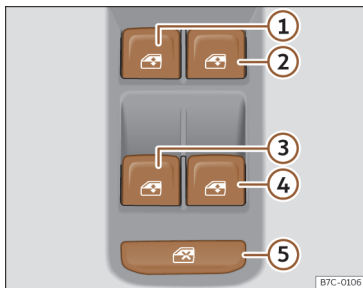

Fig. 85 Detail of the driver's door: window controls.
The safety control >>> **Fig. 85** ⑤ on the driver door can be used to disable the electric window buttons on the rear doors.